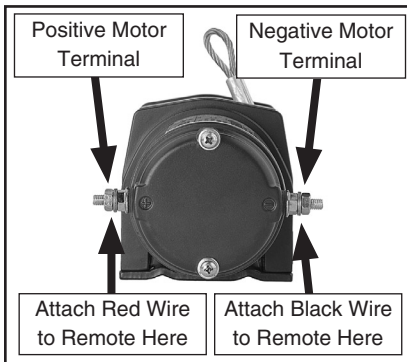

Figure 3. Winch motor terminals.
1. Connect the red wire with the motor tag to the positive (+) terminal of the winch motor, and connect the black wire with the motor tag to the negative (-) terminal of the winch motor, as shown in **Figure 3**.